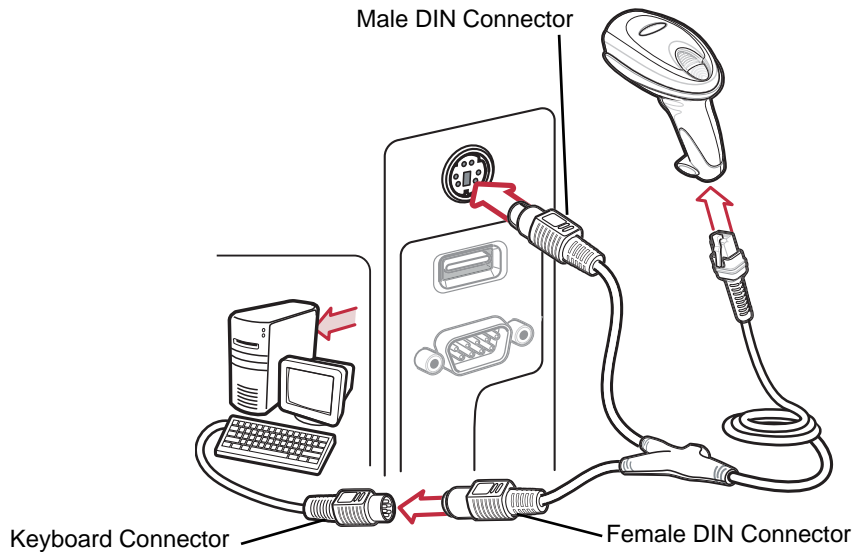
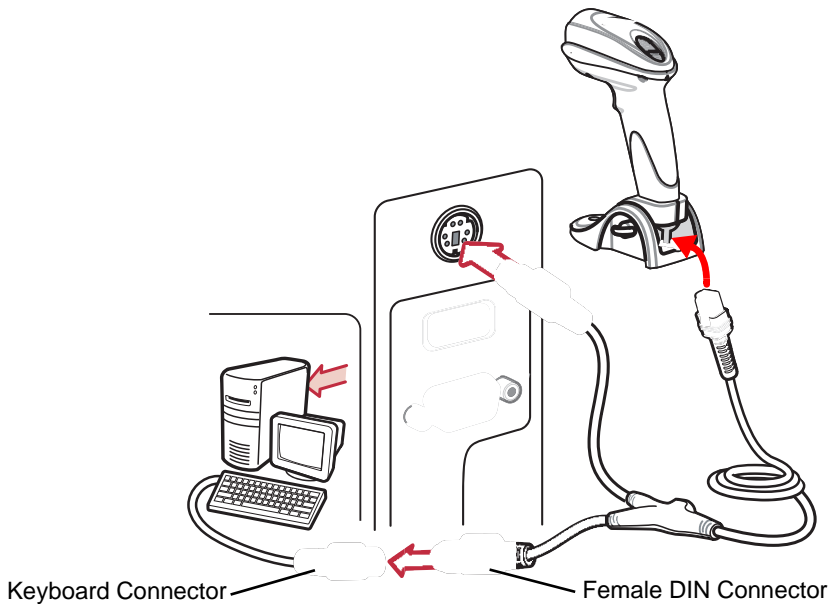

Figure 11-1 Keyboard Wedge Connection with Y-cable
Figure 11-2 Keyboard Wedge Connection with Y-cable for Scanner with Base
- ✓ **NOTE** Interface cables vary depending on configuration. The connectors illustrated in Figure 11-1 and Figure 11-2 are examples only. The connectors may be different than those illustrated, but the steps to connect the scanner are the same